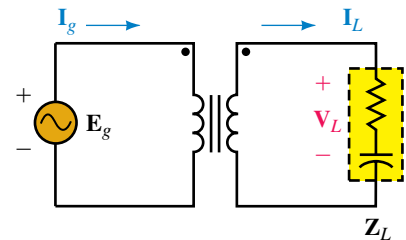

FIGURE 24–71
7. If, for Figure 24–71, $\mathbf{E}_g = 240 \text{ V} \angle 0^\circ$, $a = 0.5$, and $\mathbf{I}_g = 2 \text{ A} \angle 20^\circ$, determine the following: